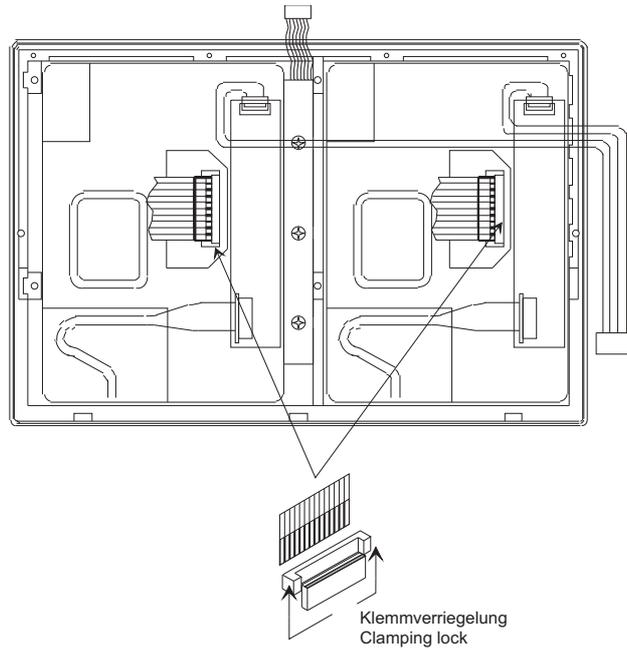

Fig. E 8-15: Removal of the flat cable from the display unit
7. Loosen the locker of the flexible flat cables at the display units. Remove flat cables. Avoid damage of the flat cables because of canting (Fig. E 8-15).